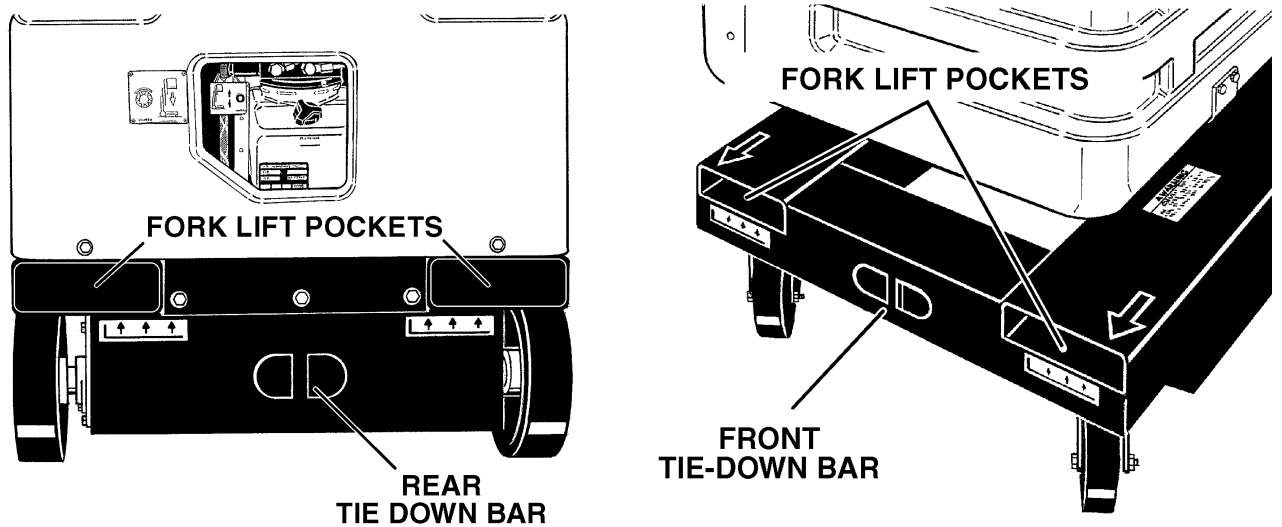

Figure 4-2. Forklift Truck Lifting Pockets and Machine Tie Down Bar Locations.
The machine may be winched onto a tilted roll-back truck bed (*see important note following*) which has been rolled back to ground level. Always winch (*pull*) from the mast (*rear*) end of the machine, using the rear tie-down bar located in the base frame (*see Figure 4-2.*).
1. Secure machine with an adequate chain attached through the tie down bars at the front and back of machine. (See Figure 4-2.)